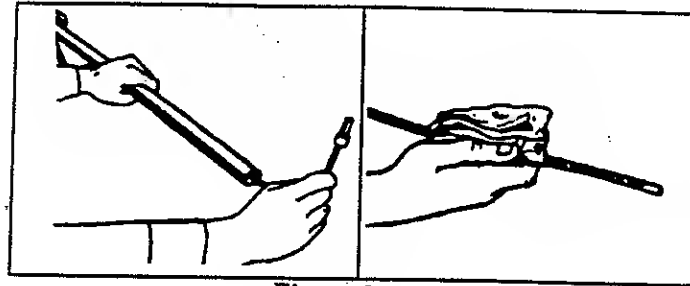

Figure 25
2. Remove the Drive Shaft from the Drive Shaft Housing. Figure 25.